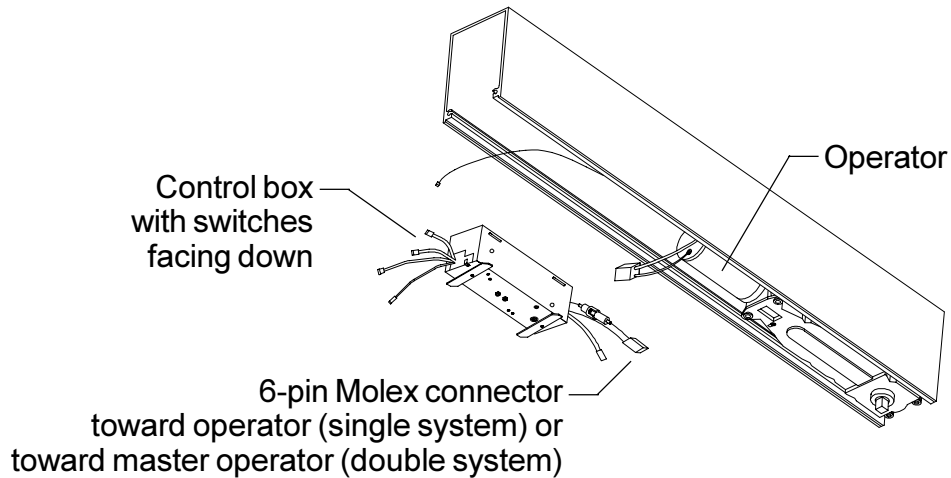

Figure 8-1
- 8.1. Orient the control box so the switches face down and the 6-pin Molex connector faces the operator for a single system or the master operator for a double system (Figure 8-1).